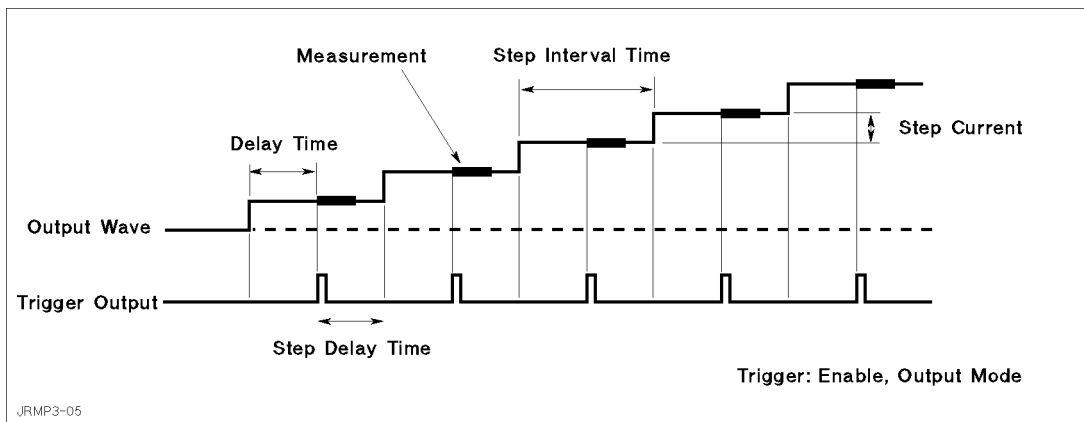

Figure 3-5. Output Sweep Current for J-Ramp Stress Test
- Constant step interval time (see Figure 3-5):
JRMP.MES enables the TRIG OUT function, and the sample program calculates and sets values so that the *step interval time* becomes constant as shown in Figure 3-5. The *step interval time* (Step_time) is the *delay time* (Step_delay_t) plus *step delay time* (Step_keep_t). Strictly speaking, the sample program calculates these as follows: